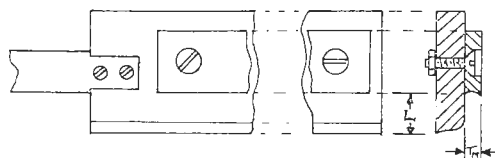

Fig 5
(3) Lathe forming, simple
The methods primarily adopted in the lathe are similar to the hand methods, with the advantages *a* of using chisel-form cross-fires for melting up a good bead, and *b* using two tools simultaneously for the shaping. The tools are (1) the carbon or graphite flat or paddle; it should be of ample size and have a small central hole to equalise pressure and an insulated handle that does not at its attachment stand above the surface of the paddle; (2) a narrower carbon flat of which one edge is shaped to form the root of the flange (see also Fig. 5). These are the two standbys, the
tool (2) being held behind the flange while the paddle is pressed against the face. An alternative for the backing tool is shown in Fig. 5 this being a wider carbon flat than (2), and having attached to it by countersunk screws a second piece of carbon, whose thickness is equal to that of the flange to be made, T_m , and the distance between the two lower edges is equal to the flange width L .